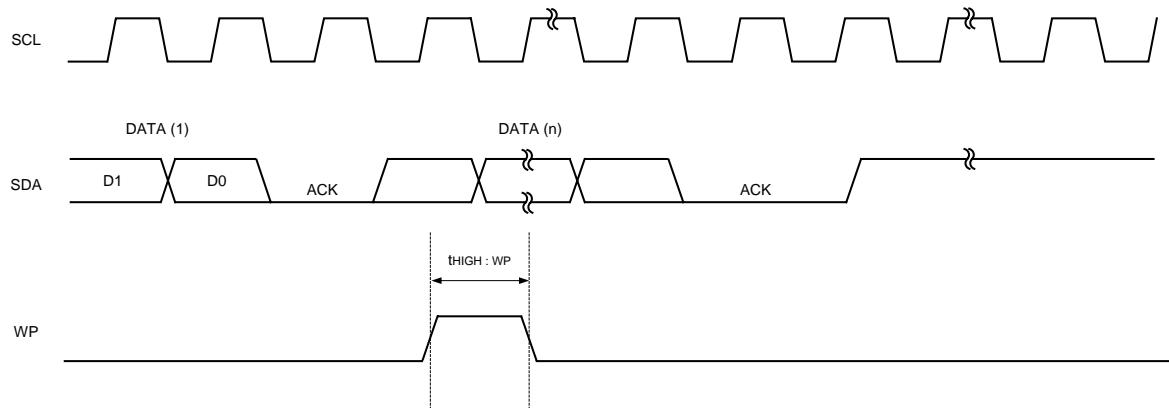

Fig.10(b) WP TIMING OF THE WRITE CANCEL OPERATION
- For the WRITE operation, WP must be "LOW" during the period of time from the rising edge of the clock which takes in D0 of first byte until the end of twr. (See Fig.10(a) )